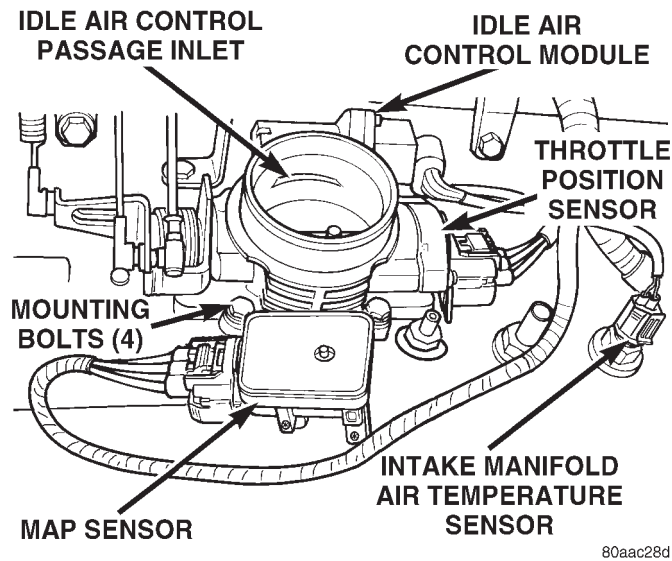
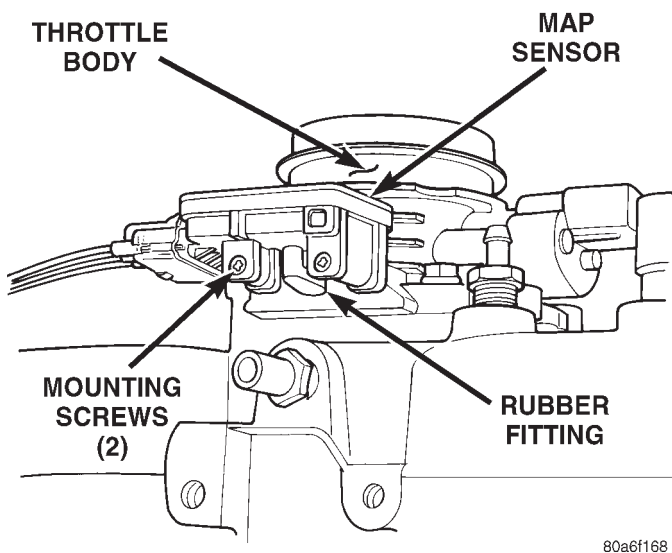

Fig. 75 MAP Sensor Location—4.0L Engine
Fig. 76 Rubber L-Shaped Fitting—MAP Sensor-to-Throttle Body—4.0L Engine
The MAP sensor is mounted to the side of the throttle body (Fig. 75). An L-shaped rubber fitting is used to connect the MAP sensor to throttle body (Fig. 76).
- (1) Remove air cleaner intake tube at throttle body.
- (2) Remove two MAP sensor mounting bolts (screws) (Fig. 76).
- (3) While removing MAP sensor, slide the rubber L-shaped fitting (Fig. 76) from the throttle body.
- (4) Remove rubber L-shaped fitting from MAP sensor.